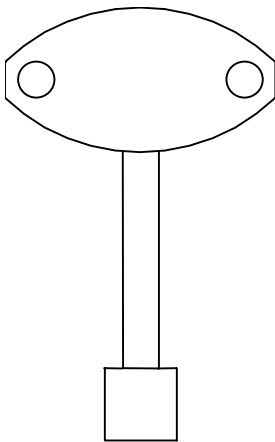

FIGURE 4
Use only your hand to turn the gas control key (SEE FIGURE 4 & 5) on the valve. Never use tools. If the valve key will not turn by hand, do not try to repair it, call a qualified service technician. Force or attempted repair by an unqualified person may result in a fire or explosion.
- 2- Insert the gas control key (SEE FIGURE 4 & 5) into the valve on the control panel (SEE FIGURE 2 & 5). Make sure the gas is off. The gas control key should be turned in a fully clockwise direction to the off position.